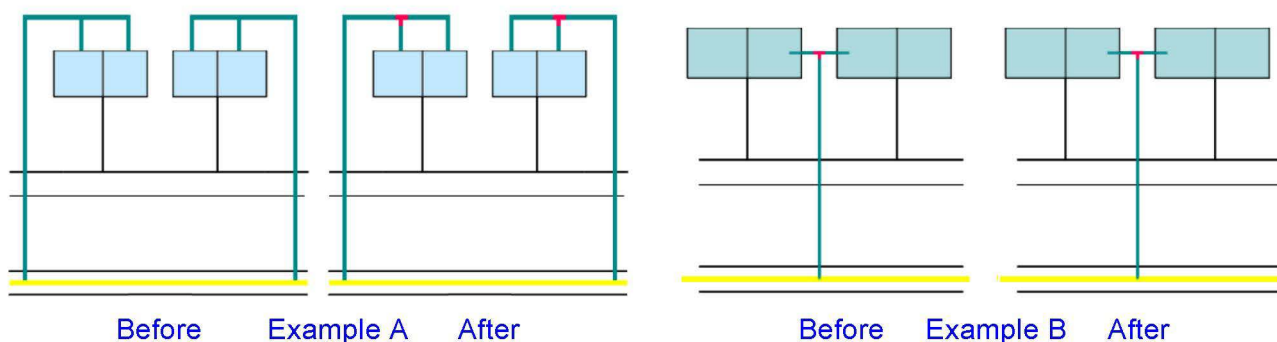

Figure B1a – Revised practice for the replacement of an existing Dual Service
10. For replacement of dual services and provided the service design complies with the requirements of this document, (refer to Note 3 below), existing dual services may be replaced by a dual service laid in both the public AND private land. Examples are shown below in Figure B1a.